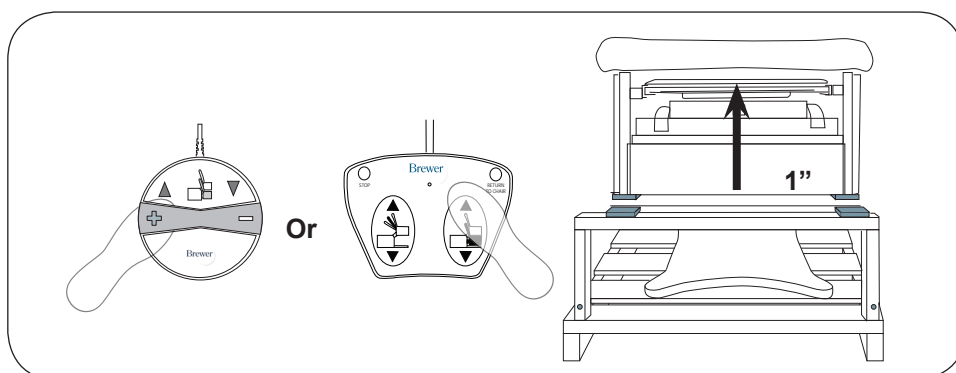

Figure 7. Raise Seat off of Brace
10. Press lift up on the foot control to raise the seat approximately 1" (Figure 7). Remove the wooden U-brace and shipping spacers at the front of the table.